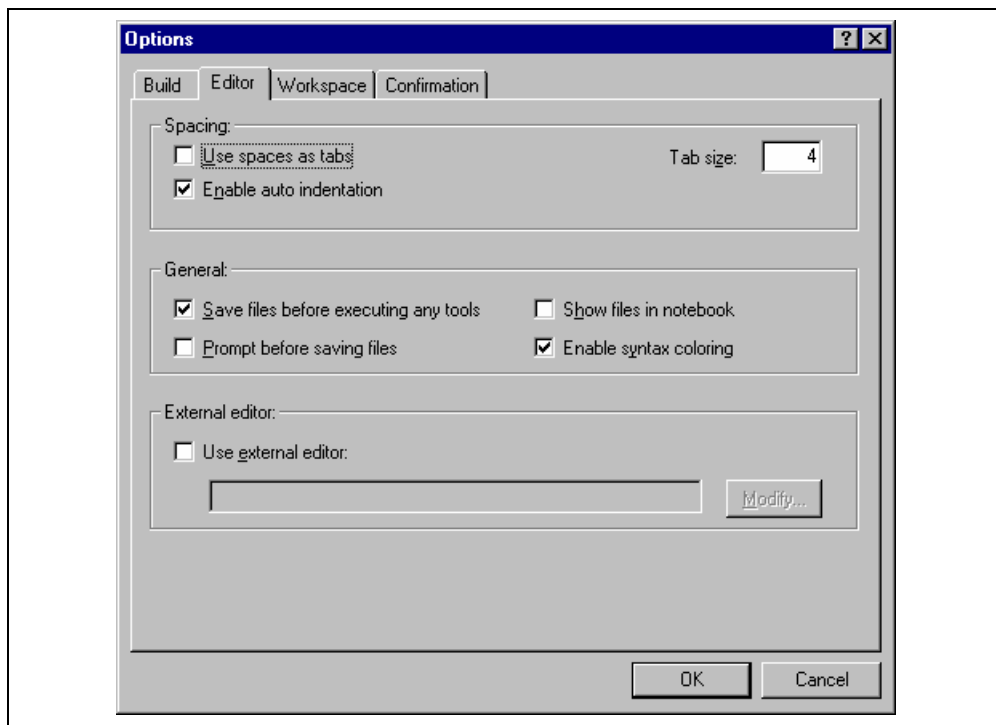

Figure 6.11: Options Dialog Editor Tab
1. Select **[Tools->Options...]**. The “Options” dialog will be displayed. Select the “Editor” tab (figure 6.11).
The High-performance Embedded Workshop allows you to customize file save on the “Editor” tab of the “Options” dialog (figure 6.11). To open the tab, select [Tools->Options...] and click the “Editor” tab.